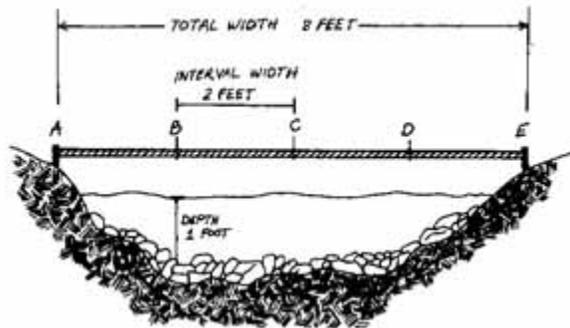

Figure 8.1 A cross-section view to measure width and depth
- 8.3. Determine the average depth along the transect by marking off equal intervals along the tape. The intervals should be one-fourth, one-half, and three-fourths of the distance across the stream. Measure the water's depth at each interval point (Fig. 8.1), and enter into the data form. Average these four values to determine average depth.